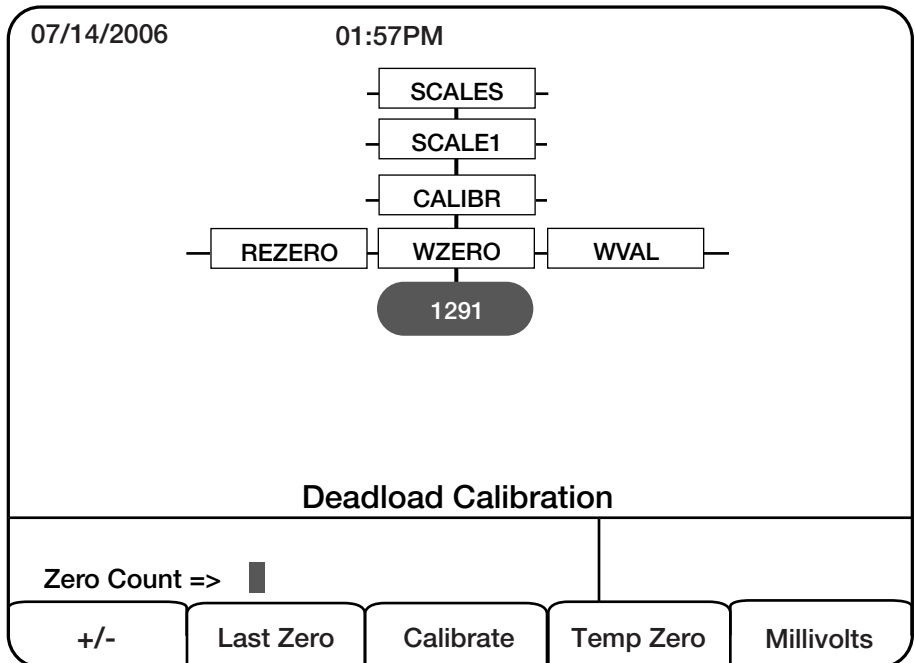

Figure 3-6. WZERO Calibration Display
The CALIBR sub-menu (under the SCALES menu, see Figure 3-6) is used to calibrate the 920i. The zero, span, and linear calibration point displays provide a set of softkeys used specifically for calibration procedures:
5. Press  to go to zero calibration (WZERO). See Figure 3-6.